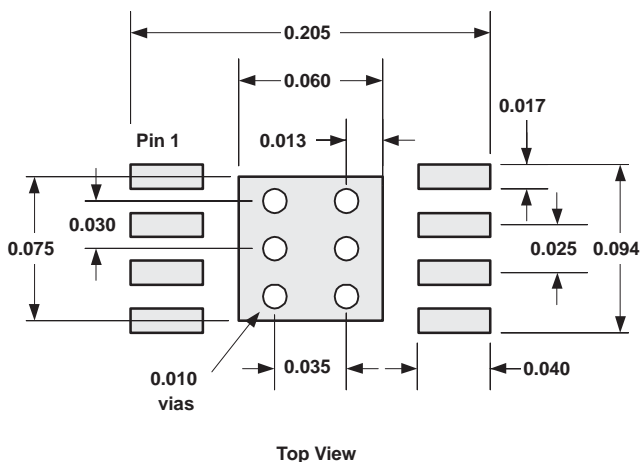

Figure 116. PowerPAD PCB Etch and Via Pattern
1. Prepare the PCB with a top side etch pattern as shown in Figure 116. There should be etch for the leads as well as etch for the thermal pad.